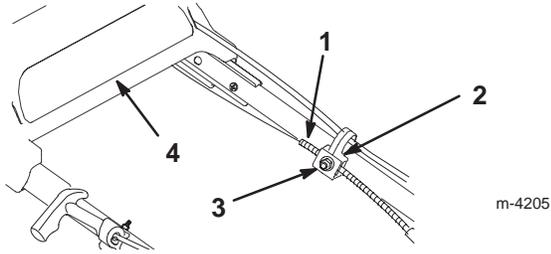

Figure 27
- Loosen the cable support nut (Fig. 27).
- With the upper handle pushed back as far as possible and while holding the drive bracket down, pull the cable jacket down (toward the lawn mower) until there is no slack in the cable (Fig. 27).
- Tighten the nut on the cable support (Fig. 27).